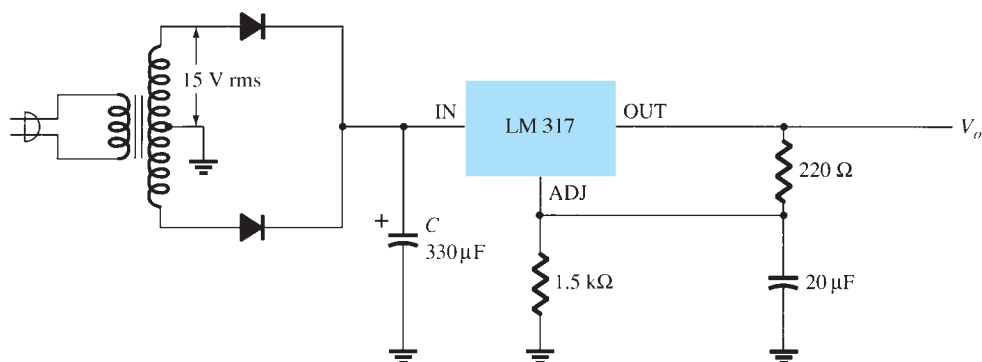

FIG. 15.48
27. Determine the regulated output voltage from the circuit of Fig. 15.48.